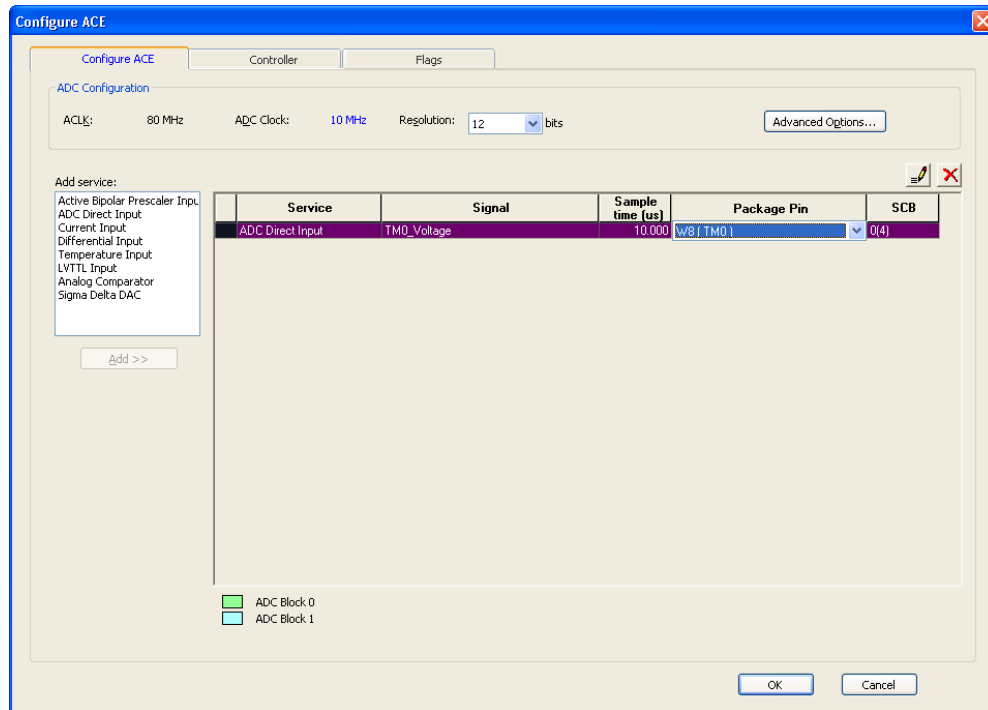

Figure 10 · MSS ACE Configuration With ADC Direct Input
5. Assign the ADC Direct Input Signal to package pin W8 in the Configure ACE dialog box. The **Configure ACE** tab is displayed, as shown in Figure 10 :